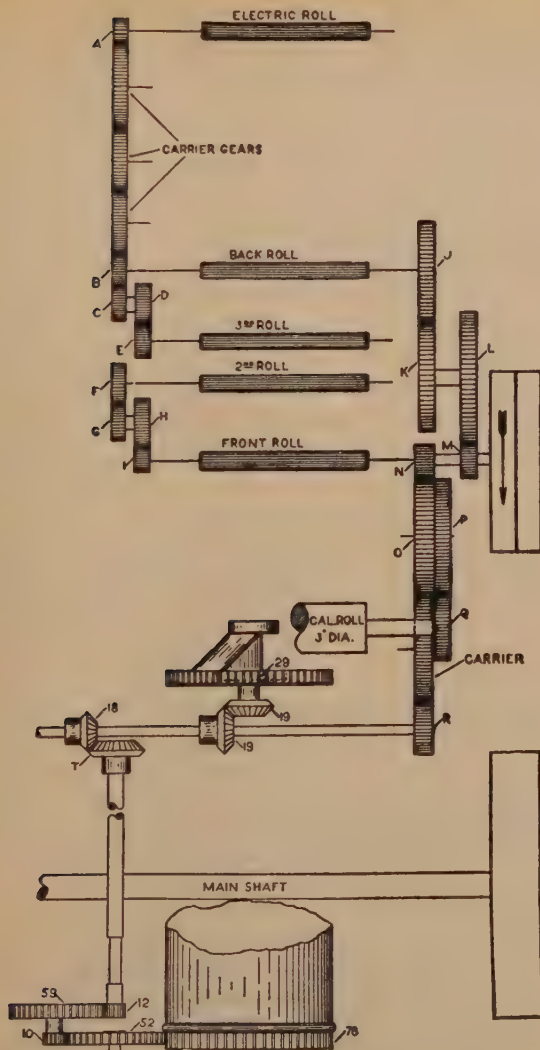

Figure 1. - GEARING OF DRAWING FRAME
EXAMPLE: If the doffer in figure 1 has a speed of 12.25 R.P.M., how many pounds of 60-grain sliver will it produce in 10 hours if 5% loss of time is allowed for stripping, oiling, etc.?
57. Find the production of 55-gr. sliver by the card in figure 1 if the doffer makes 14 R.P.M. allowing 5% loss.
64. With the grade of cotton we are about to run and for the grade of work our mill is running after allowing 5% loss we should get a production of 126 lbs. of 50-grain sliver a day from the card in figure 1 equipped with combination 3. What size doffer change gear must we use to obtain this production if the cylinder makes 165 R.P.M.?
65. From formulas (11) and (14), and giving (  $\_1$  ) and (  $\_2$  ) their usual meanings, work out the following formulas:
70. The licker-in pulley, *O*, is sometimes changed. Calculate the R.P.M. of the licker-in of the card in figure 1 if the cylinder makes 165 R.P.M.
Figure 1 represents the gearing of a drawing frame equipped with an electric stop motion. The following table shows two of many possible gearing combinations of a drawing frame. Gears *O* and *P* are fast on the same shaft. *O*, through the carrier, or intermediate, gear, runs *R*. *Q*, which is on the end of the calender roll shaft, is run by *P*. *K* is the draft change gear. *J*, the back roll change gear, can be changed to make large changes in draft. On this machine *total draft* is figured between the electric lifting roll and the calender roll. Without a lifting roll total draft would be figured between the back roll and calender roll. Metallic rolls will be discussed later.
1. Work out a formula for the draft constant of the frame in figure 1 similar to formula (3) for the card.
2. Find the draft constant of the frame in figure 1 equipped with a 48-tooth back roll change gear.
(1) draft constant = draft  $\times$  draft gear.
(2) draft gear =  $\frac{\text{draft constant}}{\text{draft}}$ .
(3) draft =  $\frac{\text{draft constant}}{\text{draft gear}}$ .
5. (a) If the frame in figure 1 is equipped with a 48-tooth back roll change gear, what is the largest draft that can be obtained with the draft change gears shown in the table?
6. If the frame in figure 1 has on a 48-tooth back roll gear, what draft gear will insert a draft of 5.8?
13. On the frame in figure 1 with a 48-tooth back roll gear we have been drafting 50.2-gr. sliver into 51.3-gr. sliver. We must now draft the same sliver fed into 46-gr. sliver. What gears shall we use?
The drafts between successive rolls are called *intermediate drafts*. The intermediate draft between two successive rolls not directly connected is called *break draft*. The break draft in figure 1 is between the 2nd and 3rd rolls.
*What is the intermediate draft between the following rolls in figure 1:*